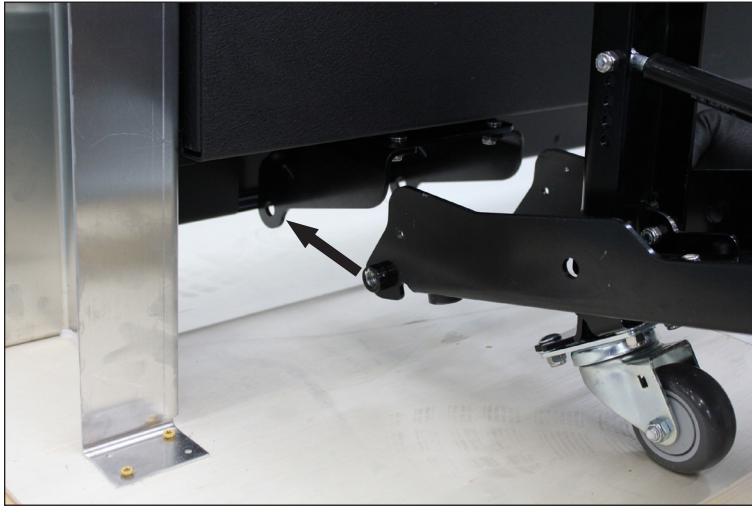

Figure 10: Line up Caster Base Assembly with Caster Base Vert
7. Locate a caster base vert underneath the table, and line up the caster base with the holes. Refer to **Figure 10**.